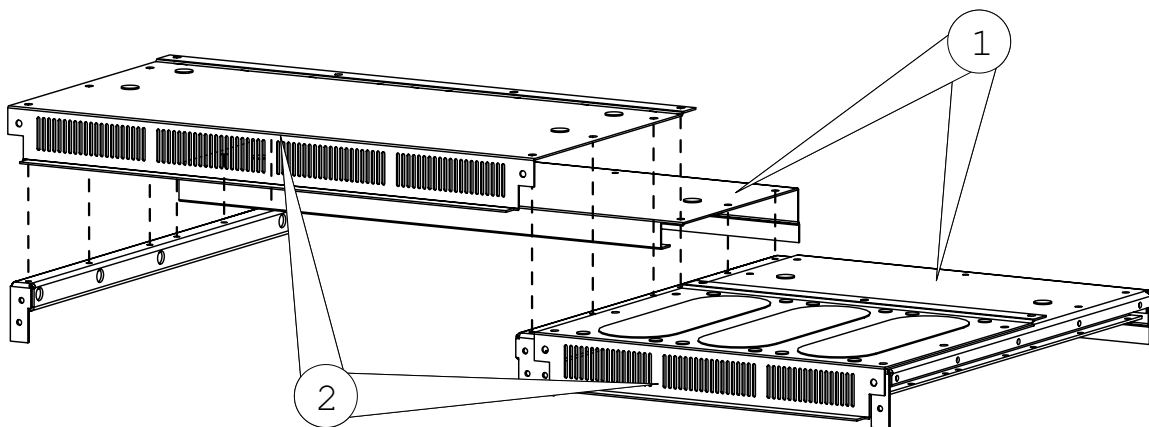

Fig. 2.10. Back roofs are fastened to profiles first and then front roofs.
With light cell centres the assembly of roof is started by fastening the back roof (1) and then the front roof (2) to the profiles mentioned earlier, Fig. 2.10.